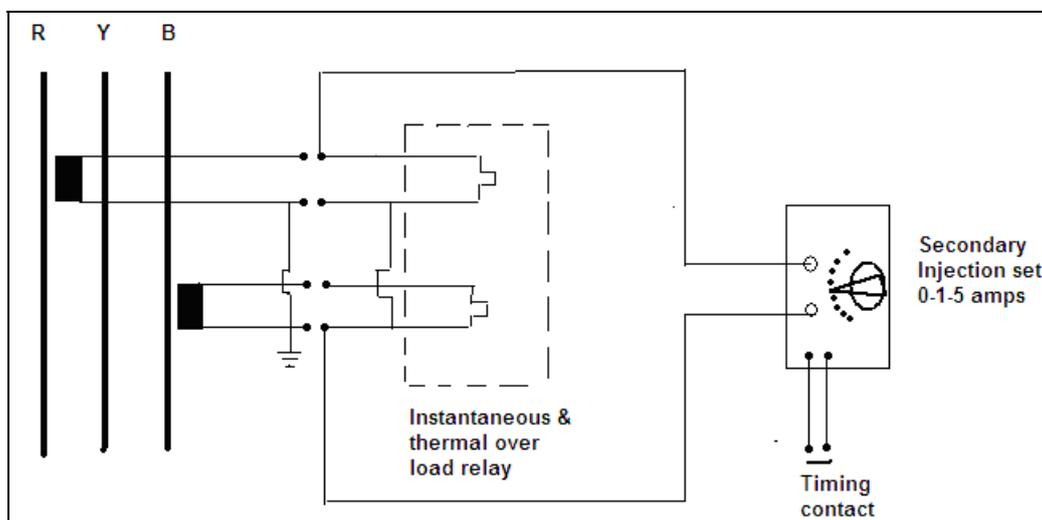

Figure 14.2
- Figure 14.2 shows the connections for secondary injection to test the relay connected to the red phase as well as a timing contact that can be connected to either a contact on the relay or across the poles of the relevant primary circuit breaker. For testing procedures the links must be opened or wires disconnected on the relevant terminals as determined from the applicable circuit diagram.